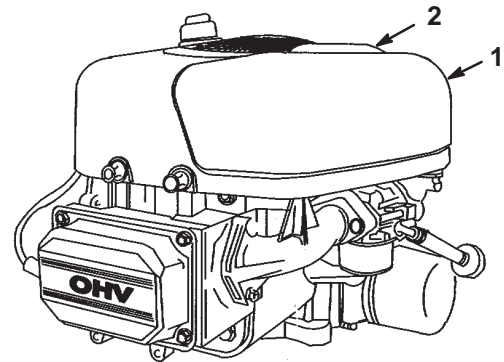

Figure 18
6. Clean around the air cleaner to prevent dirt from getting into the engine and causing damage. Pull up on the air cleaner cover handle and rotate it toward the engine (Fig. 18). Remove the air cleaner cover.